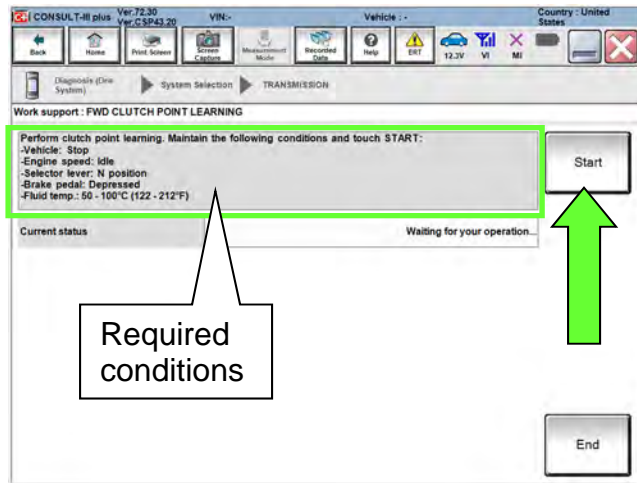

Figure 178
- Confirm that all of the required conditions indicated in Figure 178 are being met.
176. While maintaining all conditions shown in Figure 178 and the “Current status” indicates “EXECUTING”, shift the CVT into **D** and then wait until the “Current status” indicates “COMPLETED”.